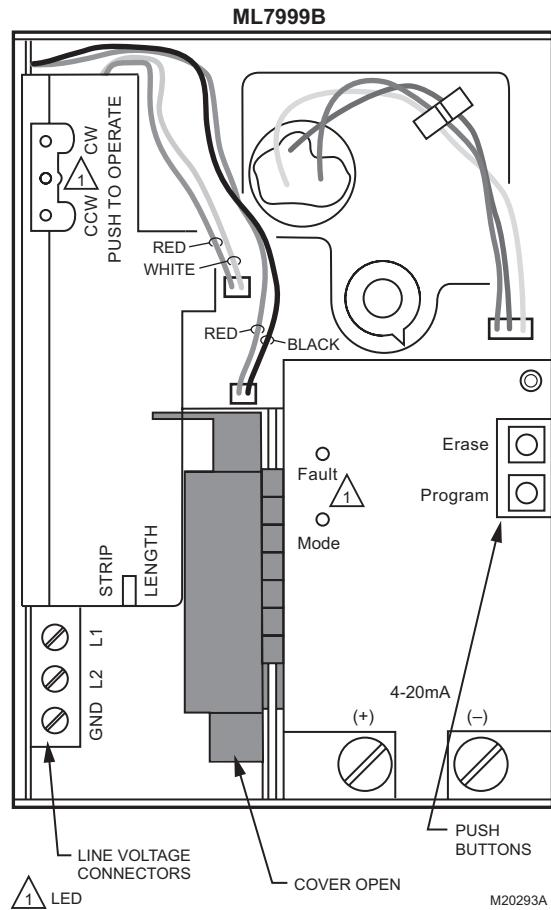

Fig. 6. Interior layout of ML7999B.
3. Wire the low-voltage circuit to the 4-20 mA controller. See Fig. 6 for typical wiring connections.